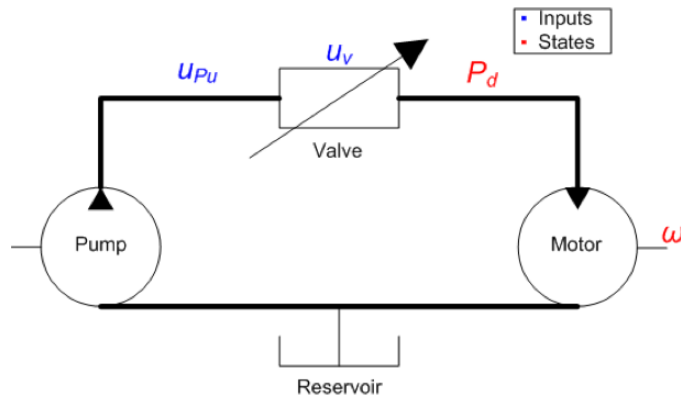

Figure 3: Hydraulic Motor System with Valve Control
Now you will develop nonlinear and linearized Simulink models of a hydraulic motor system similar to what is on the hydraulic bench. This system is shown in Figure 3 and the equations of motion will be described below.
From the setup in Figure 3, there are two states in the system: 1 – the motor speed ω , 2 – the pressure downstream of the valve P_d . The two inputs are the valve command u_v , and the pressure upstream of the valve u_{P_u} . The relationship between torque applied T to the hydraulic motor and the motor's speed ω can be captured well with a linear first order model; see Eq. (1).